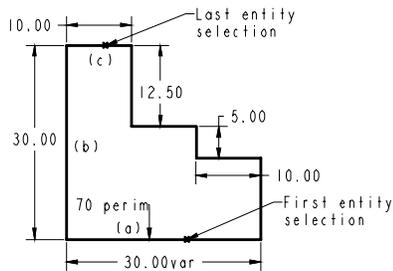

Figure 2-3 The Perimeter option
1. Draw a sketch as shown in Figure 2-3 and dimension it using the **Normal** option. After adding the dimensions, regenerate the sketch.
2. Now, choose **SKETCHER > Dimension > Perimeter** from the **Menu Manager**. You will be prompted to select the entity that is one end of the desired chain or a part of the desired loop. This will be the first entity of the chain. Using the left mouse button select entity (a) as shown in Figure 2-3. The color of the selected entity changes from cyan to red.
button select the dimension of line (a) as the variable dimension, see Figure 2-3. Regenerate the sketch.